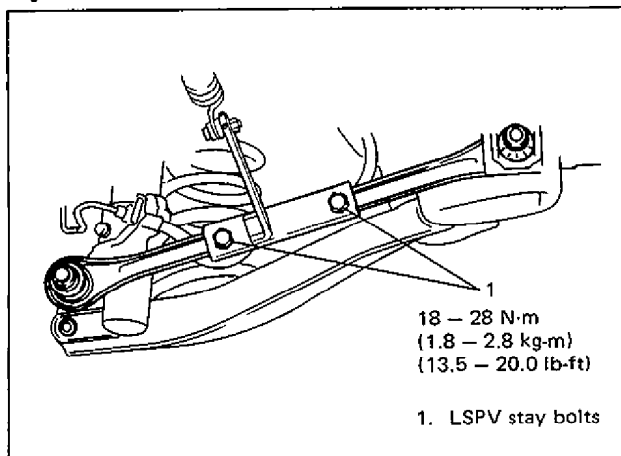

Fig. 3E-7-1
- 5) Install wheel and tighten wheel nuts to specified torque (Refer to Fig. 3E-53).